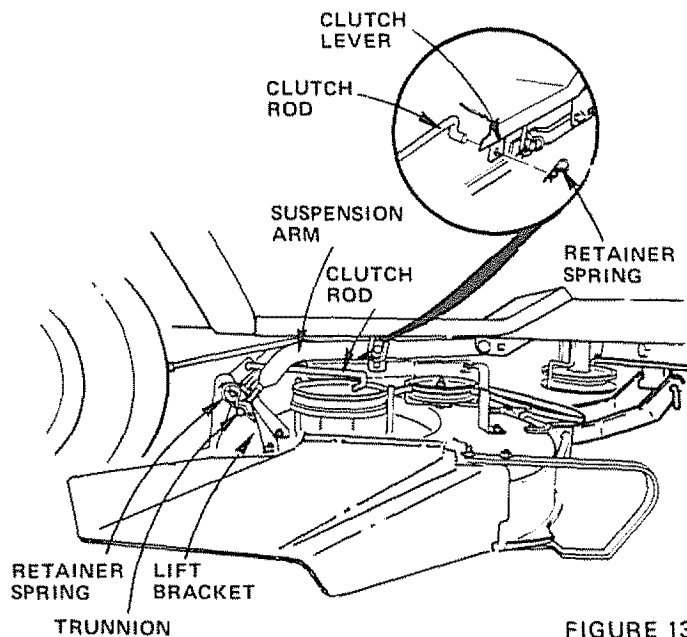

FIGURE 13
3. Install Clutch Rod in Clutch Lever (Fig. 13 - Inset).
4. Move Lift Lever (Fig. 11) forward to lower Suspension Arms. Slide Trunnions through Lift Bracket holes and secure with Retainer Springs (Fig. 13).